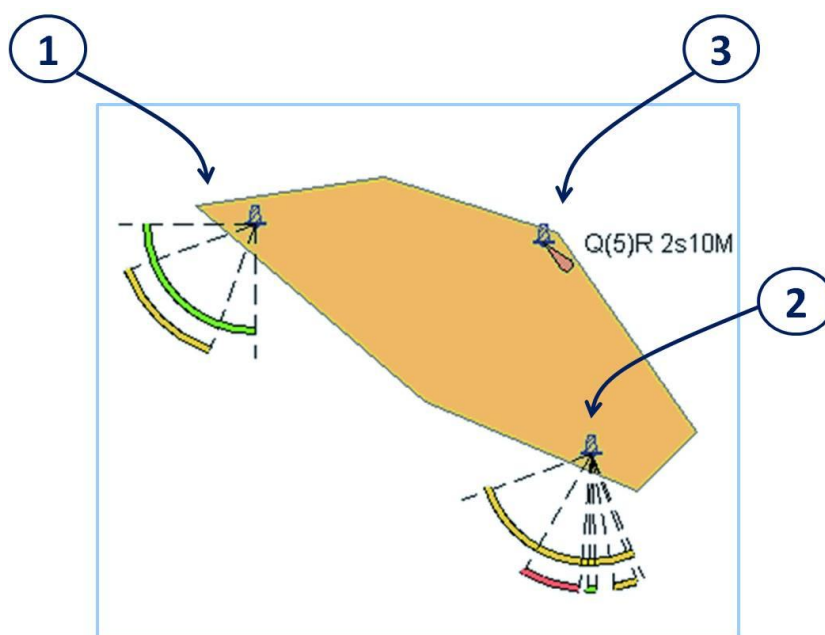

Figure 3 – Correct display of complex lights objects
1. Check 2 confirms that your system displays complex light sectors and arcs and light descriptions as intended by the IHO standards. The check ENC contains two sectored lights (1) and (2) and an all round light (3). In some ECDIS, the coloured arcs of sectored lights may be shown incorrectly. In some ECDIS, the period and range of the all round light may not be shown correctly.
– it should read: “Q(5) R 2s 10M”
3. When the display is zoomed in to an appropriate scale you should see the light sectors (1) and (2) and the light characteristics (3) exactly as shown in Figure 3:
What should you do if your ECDIS does not show the symbols as they are shown in Figure 3?